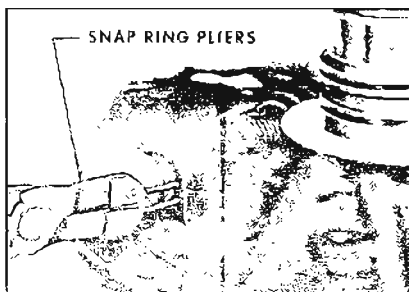

Figure 5-192
10. Compress reverse and modulator boost valve with thumb and remove retaining snap ring. See Figure 5-192.